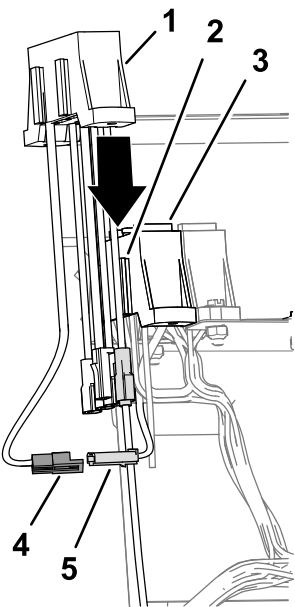

Figure 23
- 2. Connect the 2-pin connector for the auxiliary-feed wires of the fuse block for the machine to the 2-socket connector for the feed wires of the auxiliary-fuse block (Figure 23).
- 3. Align the slots in the auxiliary-fuse block with the mounting flanges of the fuse block for the machine (Figure 23).